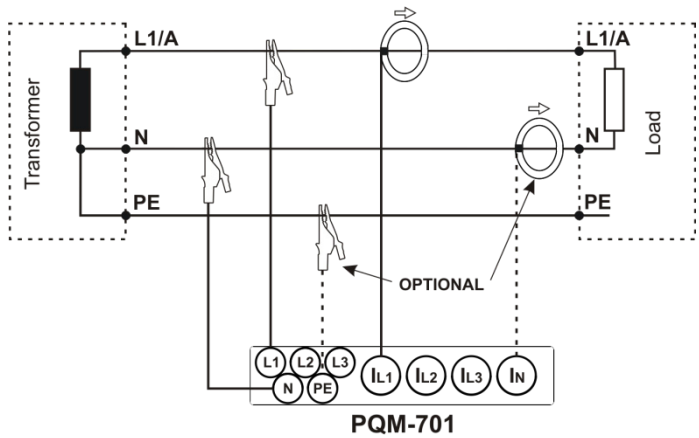

Fig. 3. Connection diagram – single-phase system.
- Single-phase with neutral (Fig. 3)